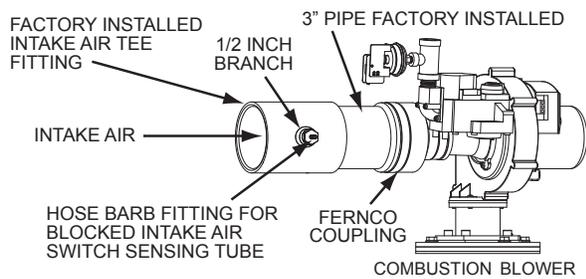

Figure 19. Intake Air Connection
15. If installing two- or four-inch intake air pipe, transition to three-inch pipe at the intake air connection on the water heater as shown in *Figure 19*. The field installed three-inch pipe between the intake air connection and the reducer coupling should be